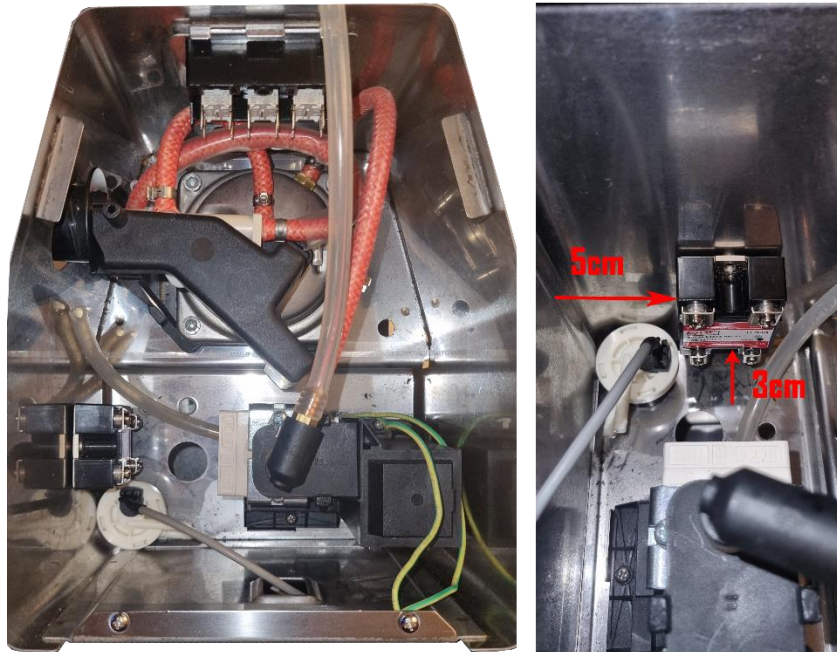

Fig. 7.3
- Prepare to glue the relay inside. Mounting position will be to the back left side at 3cm high from the inside floor and 5cm from the back, looking from the behind the machine . (fig. 7.3)